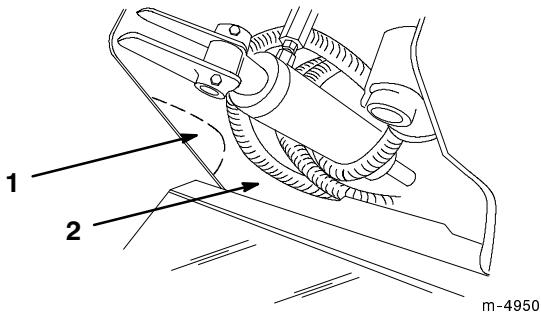

Figure 2
- Push and secure the hydraulic hoses in the internal compartments up and into the backhoe, away from the area to be cut (Fig. 2).